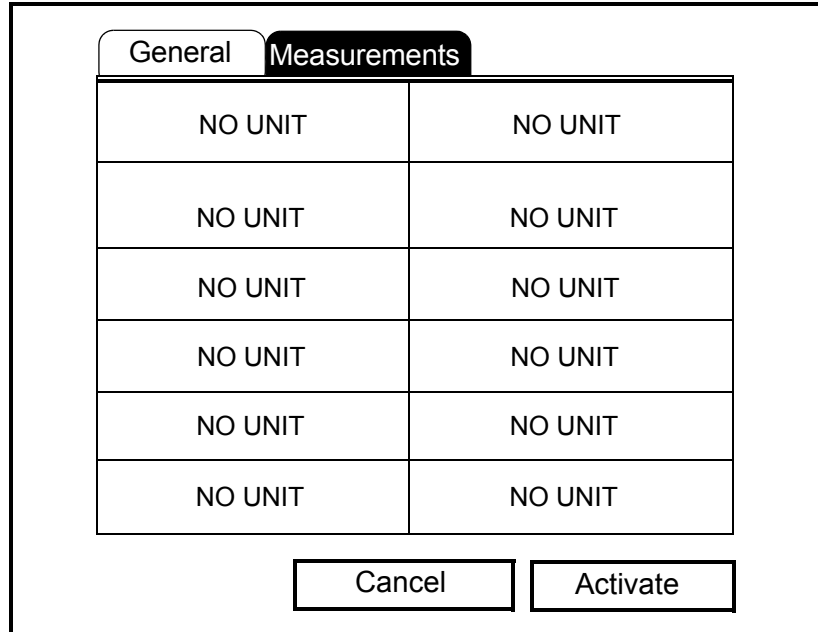

Figure 5-6: The Measurements Window
2. Press the [▶] key to select the *Measurements* tab. Press [ENTER] and the *Measurements* window (see Figure 5-6 below) opens.